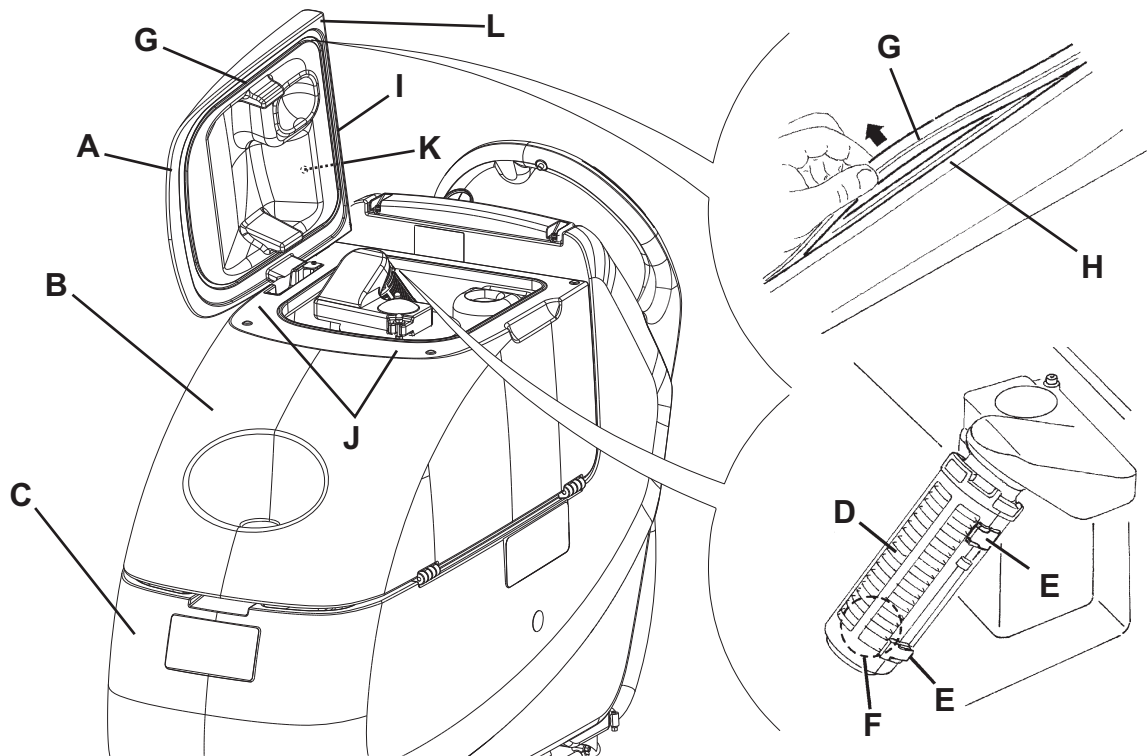

Figure 6
2. Turn the ignition key (80) to "0".
3. Open the cover (A, Fig. 6) to washing position (L).
4. Wash with clean water the cover (A), the tanks (B and C) and the vacuum grid with automatic shut-off float (D). Drain the water from the tanks with the hoses (16 and 17).
5. If necessary, release the fasteners (E) and open the grid (D), recover the float (F), clean all the components and then reinstall them.
6. Check the tank cover gasket (G) for integrity.